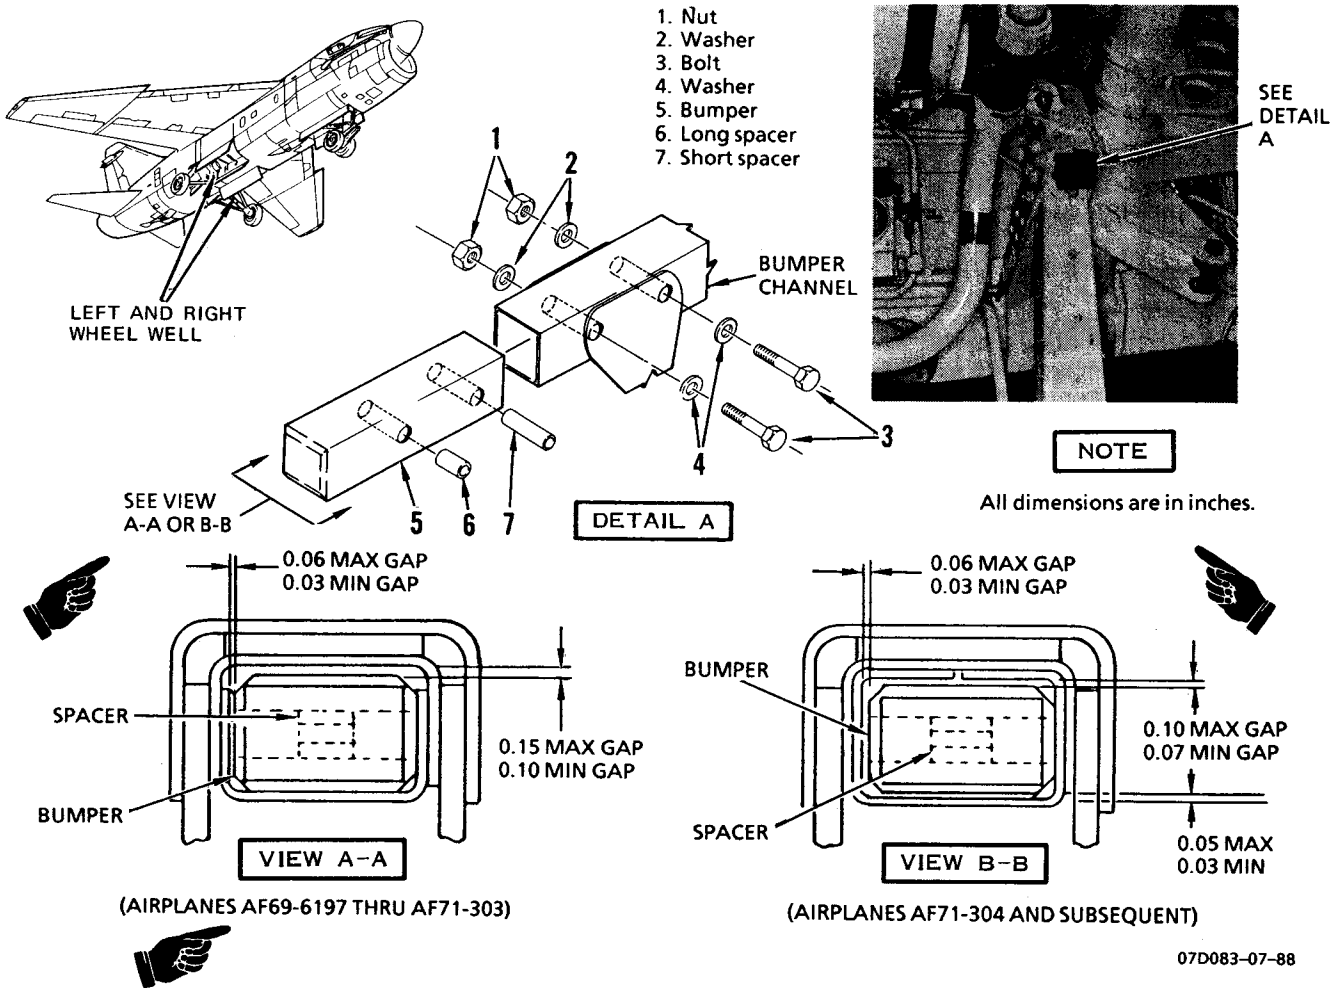

Figure 1-28. Main Landing Gear Up Bumper Removal and Installation
1-94. REMOVAL. (See figure 1-28.)
1-95. INSTALLATION. (See figure 1-28.)
a. Rework replacement bumper. (See figure 1-28.)
c. Install short spacer (7) in lower hole of bumper. Center space in hole.
d. Install long spacer (6) in upper hole of bumper. If necessary, grind ends of spacer (6) for flush fit with inside of channel.
e. Install bumper (5) in channel and press bumper until boltholes in bumper and channel are aligned.
g. Secure bumper in channel with washers (4), bolts (3), washers (2), and nuts (1).